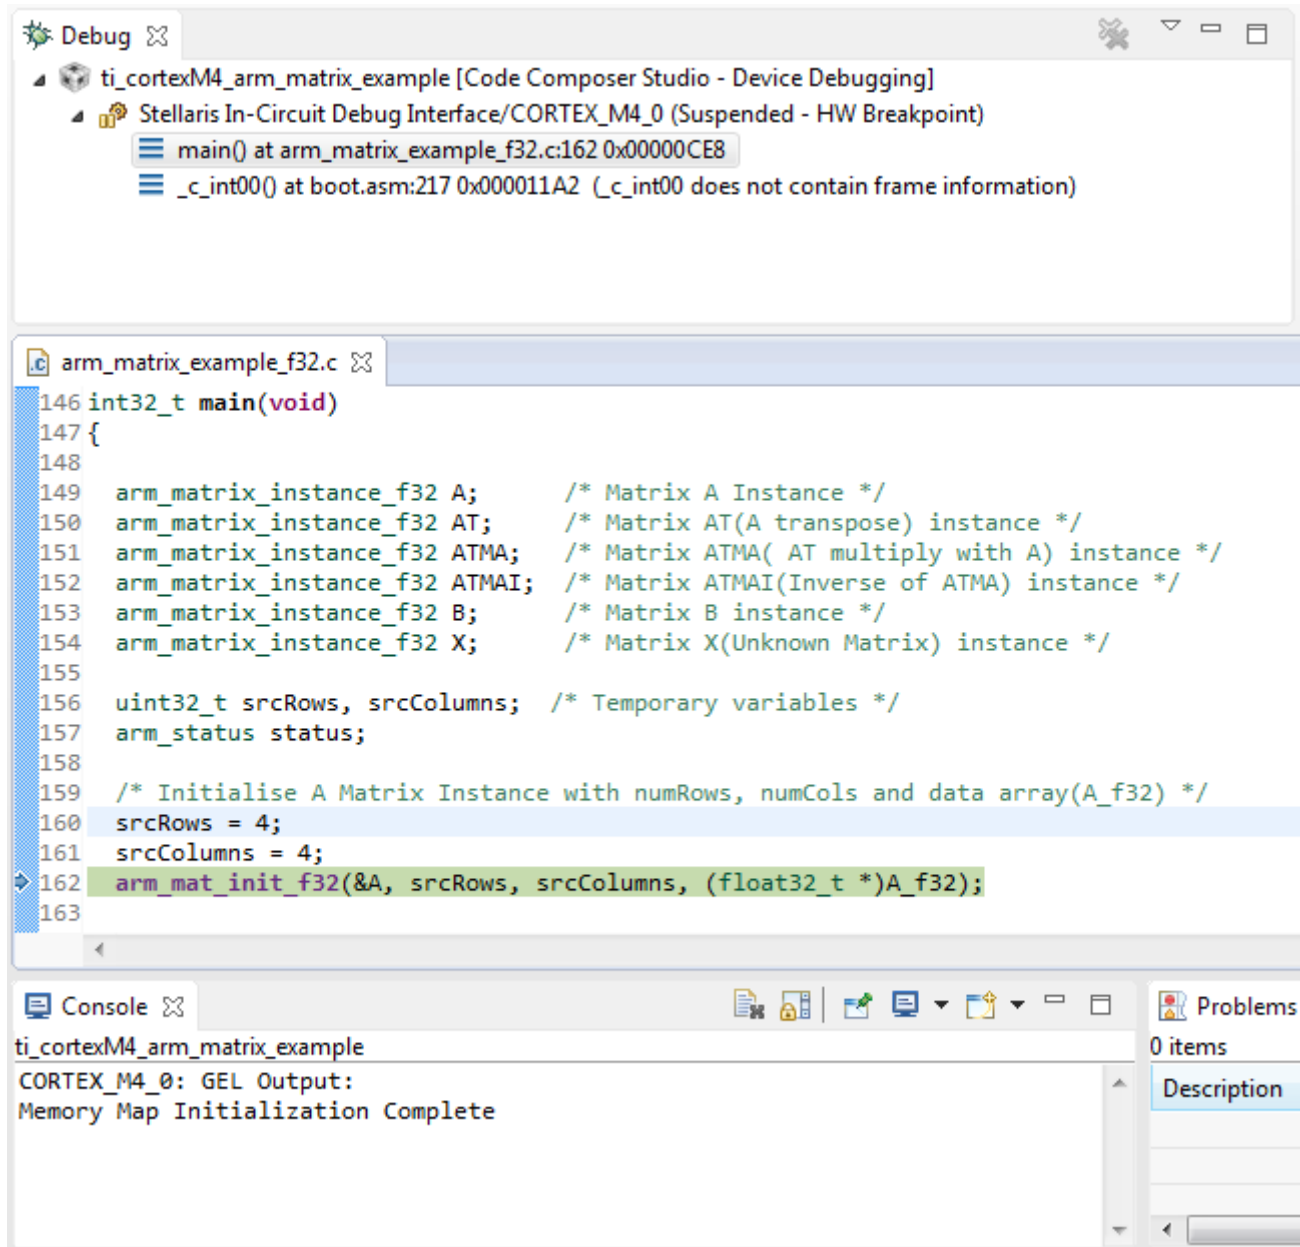

Figure 26. The arm_matrix_example Project, After it has Been Loaded Into Flash and the Startup Code has run to the main() Function
2. It takes a moment for Code Composer Studio to connect to the MCU and download the code. Once the connection has been established and the flash programmed with the compiled project code, the MCU will run until it reaches the project's *main()* function (see Figure 26). Press the *Resume* button (or F8) to cause the program to start executing.